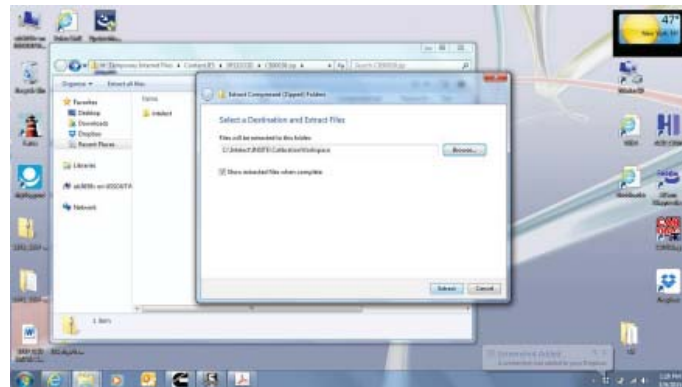

Figure 7 - Selecting a Destination File
- 1.7. Select file location window will pop up, click on Browse and select c:\Intellect\INSITE\calibrationworkspace. See Figure 7.